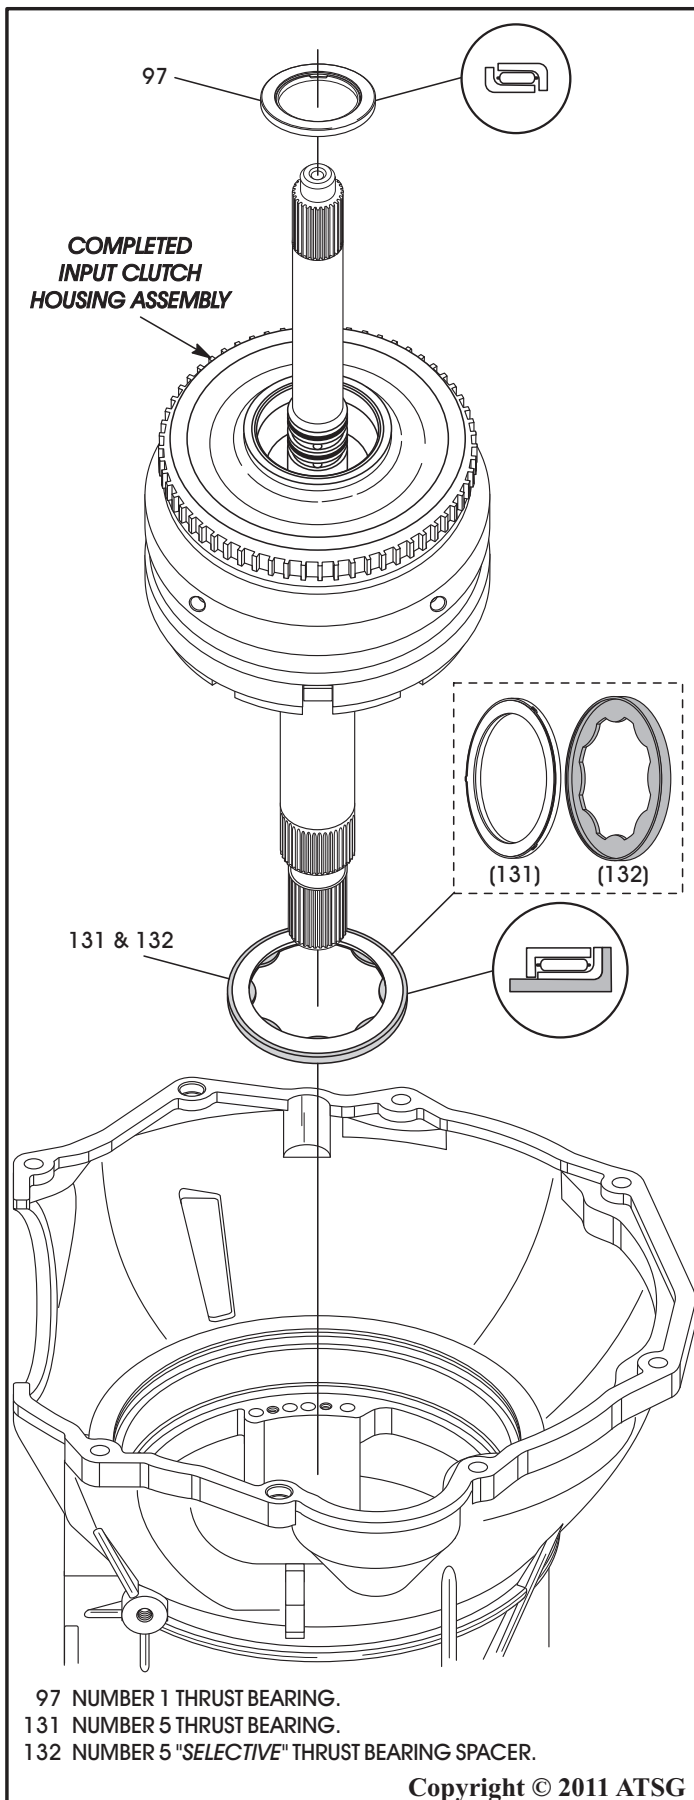

Figure 149
23. Install the number 5 thrust bearing and selective spacer onto back side of reverse clutch hub, as shown in Figure 149, and retain with Trans-Jel®.
24. Install the number 1 thrust bearing, in direction shown in Figure 149, down into the pocket of the completed input housing.
25. Install the completed input housing and bearings into transmission case, as shown in Figure 149, by rotating back and forth until fully seated.